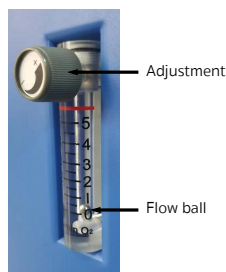

Figure 9
10. Oxygen flow meter (refer to Figure 9)